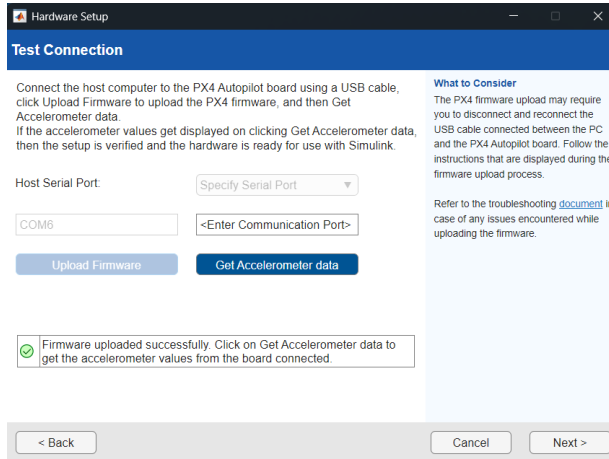

Figure B.17: Screenshot of the firmware upload success window.
19. Once the firmware has deployed successfully, a green checkmark will appear as shown in Figure B.17. Proceed to the final screen.